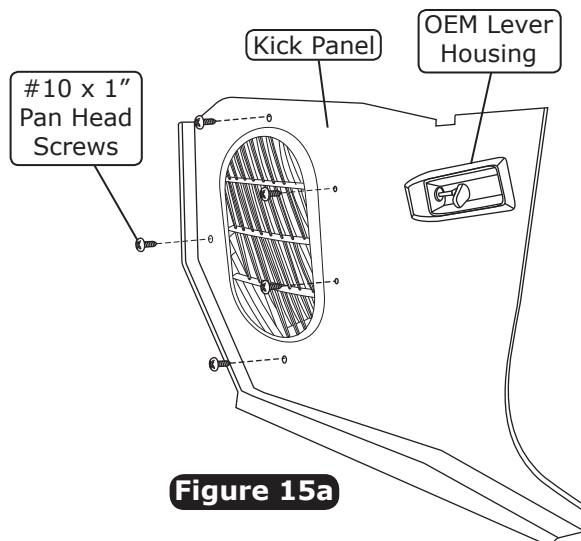

Figure 15a
3. Reinstall the kick panel using the (5) #10 x 1" pan head screws as shown in Figure 15a, below.